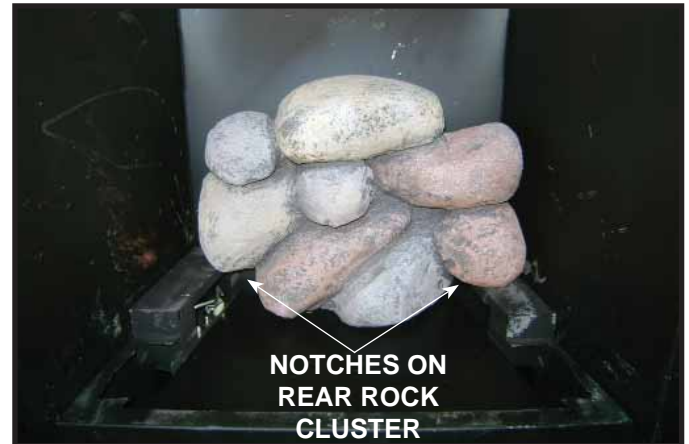

Figure 2. Placing Rear Rock Cluster
1. Place the rear rock cluster in the firebox as shown in Figure 2. The flat portion should fit tight against the back of the firebox. Slide cluster to the right. There are notches on the bottom of the rock cluster that should fit over the base pan. Cluster should rest on burner and base pan.